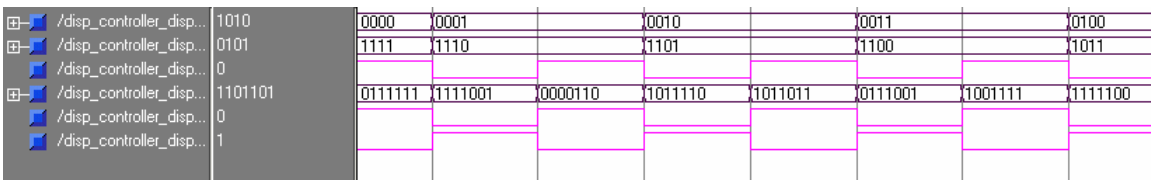

Figure 7; Display controller simulation
- Simulate the project; Highlight the file disp\_controller\_tb.vhd under **Sources in Project**, expand **ModelSim Simulator** and double click **Simulate Behavioral model** under **Processes for Source** window. Make sure the simulation produces a waveform similar to figure 7.